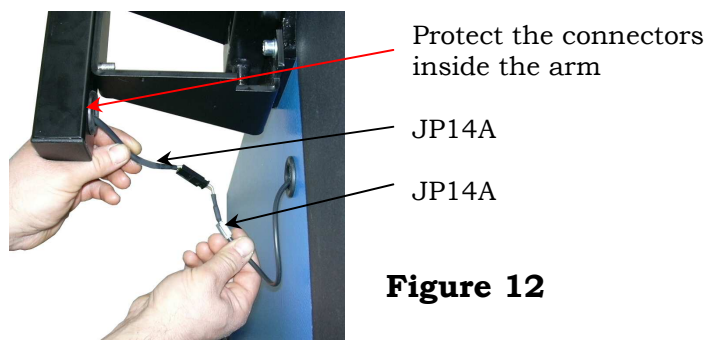

Figure 12
- ③ Connect connector JP14A of the cable coming from inside the machine to connector JP14A of the cable coming from the measuring device arm, see Figure 12. Fit the section of the cable with the connectors inside the arm.